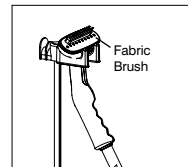
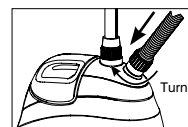

Figure 3
Figure 4
5. Attach the fabric brush to the nozzle by setting into place (Fig. 3).
6. Attach handle & hose assembly to unit. Line up the nut on the hose with the screw on the hose connector. Turn nut clockwise until it is securely tightened on the hose connector, (Fig. 4). It should be tightly screwed into place. Then you may hang the steamer handle onto the hanger attachment (Fig. 3).
- Attach the fabric brush onto the steam nozzle (Fig. 3).